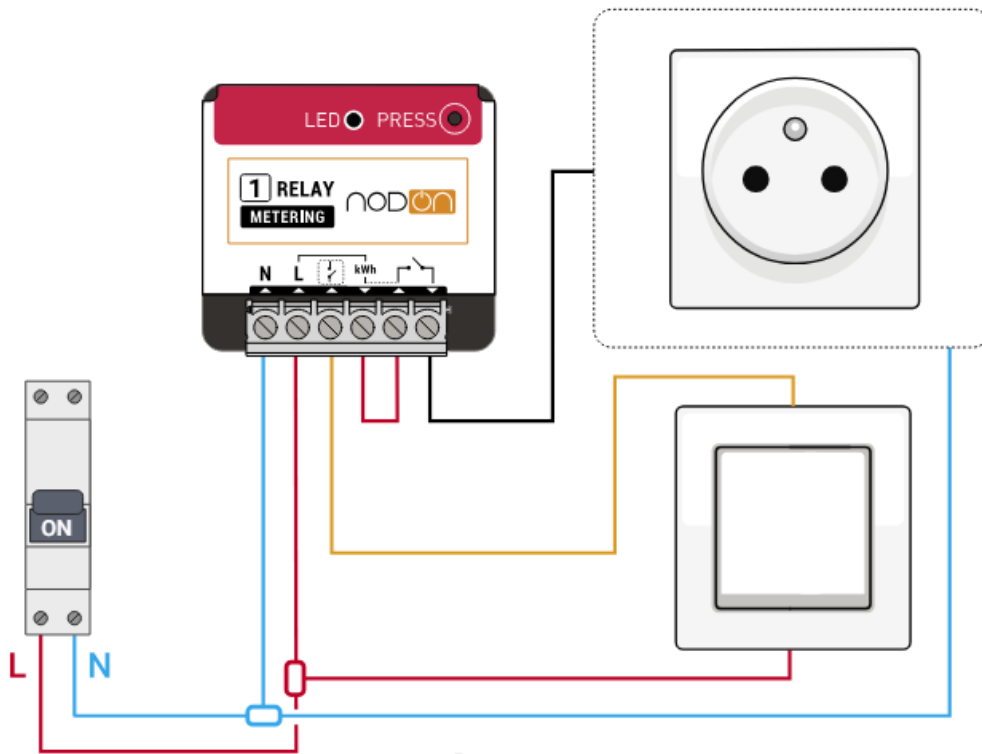

Figure 1
3. Wire the Zigbee Multifunction Relay Switch with metering, following the diagram in Figure 1.